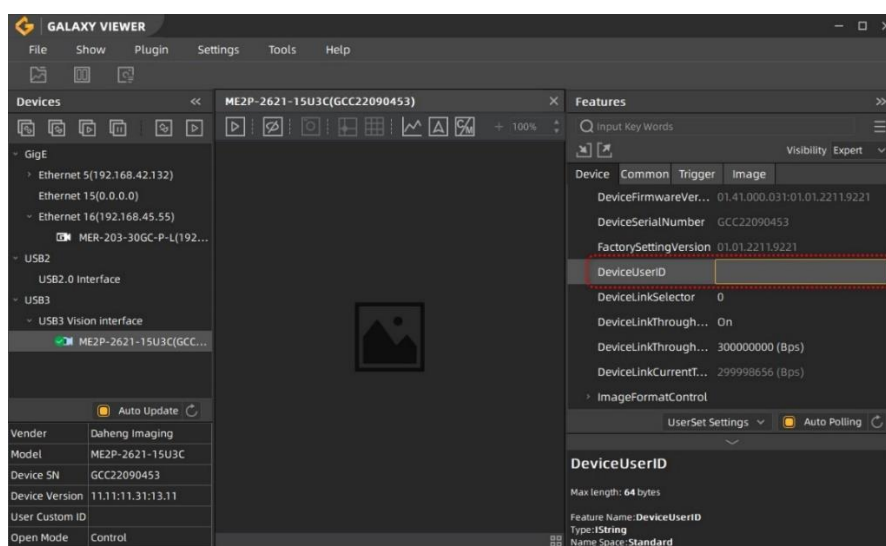

Figure 8-42 GalaxyView software
- 1) Set by the GalaxyView, as shown in the Figure 8-42.